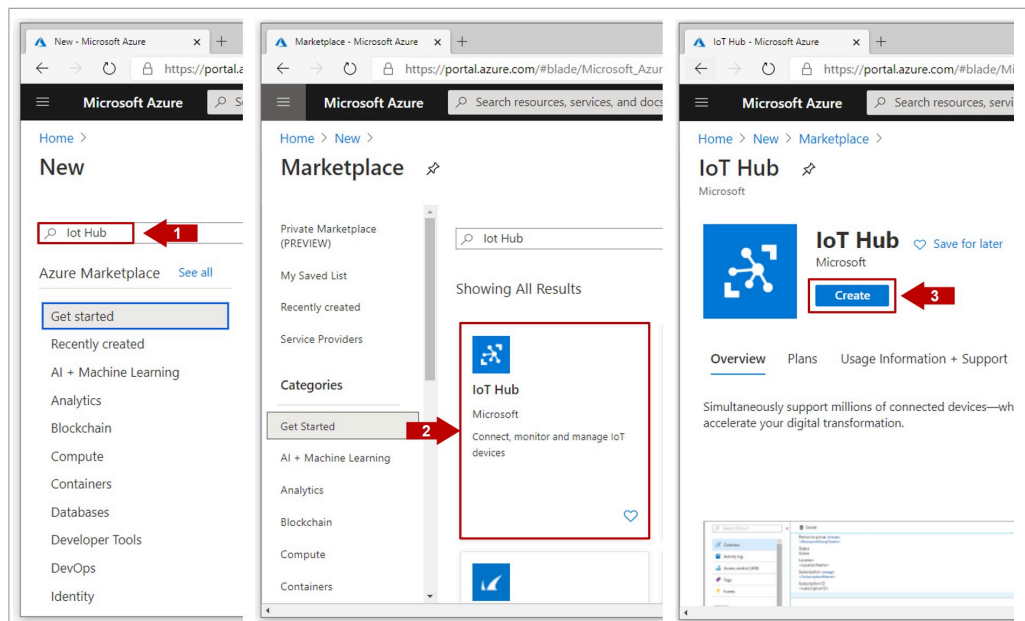

Figure 44. Create an Azure IoT Hub
In the search bar, type *IoT Hub* (1), then click on the *IoT Hub* (2) resource, and finally click on *Create* button as shown in Figure 44: